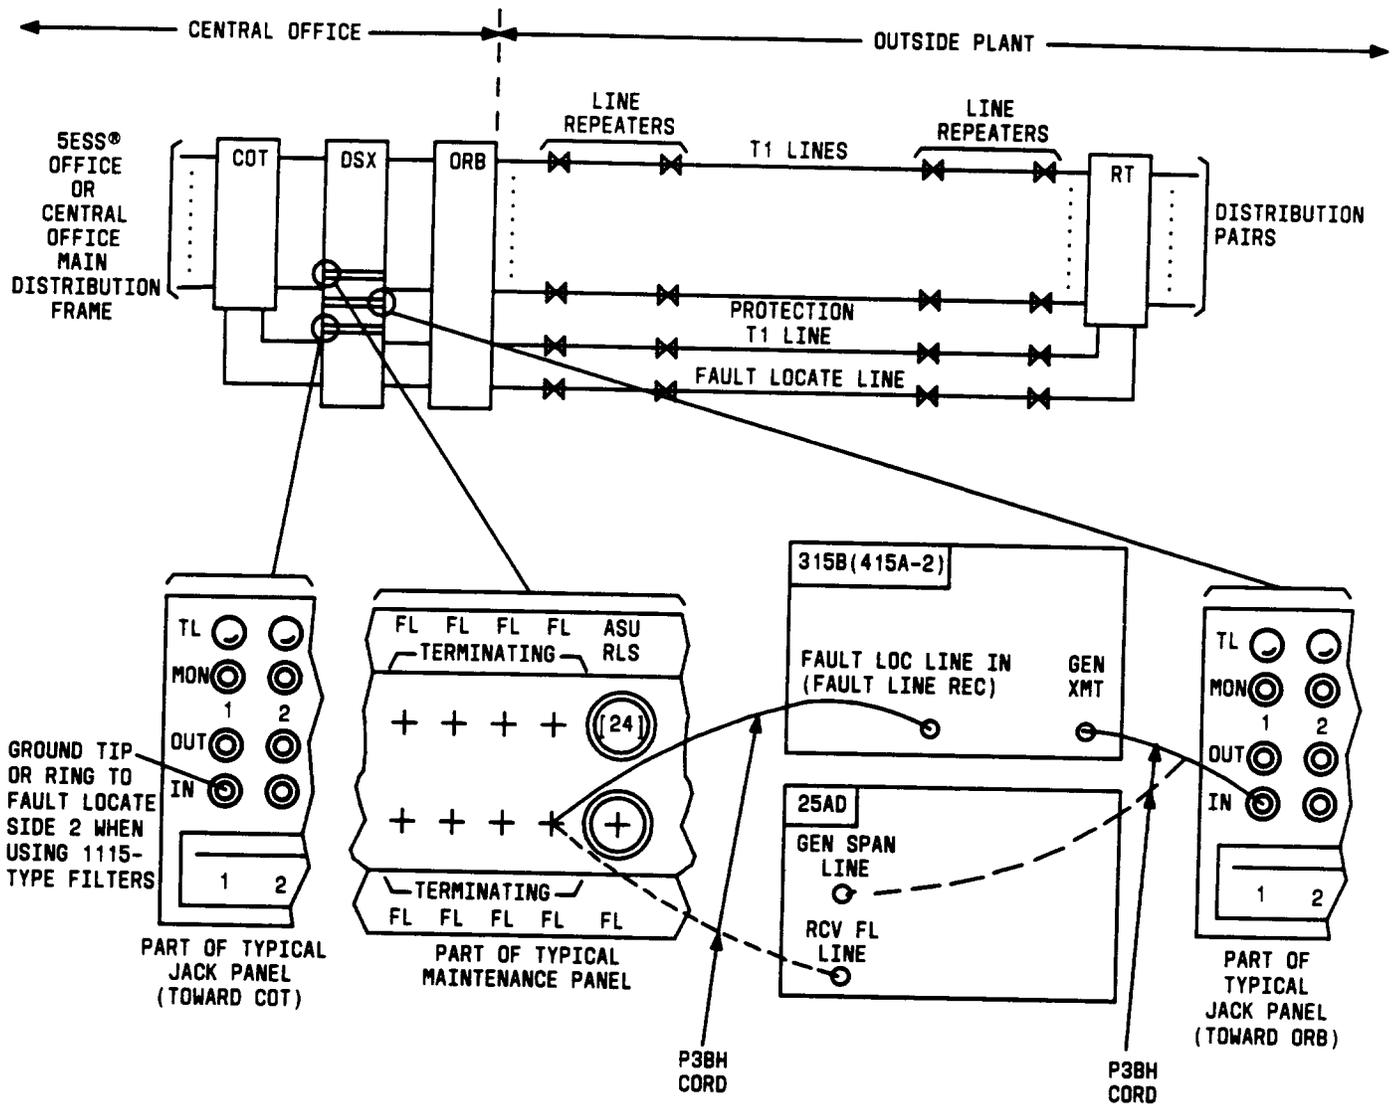

Fig. 3—Typical DSX Cross-Connect Fault-Locating Configuration
10. Plug power cord into -48V source (FIG. 3).
24. Connect DSX Cross-Connect and test equipment per FIG. 3.